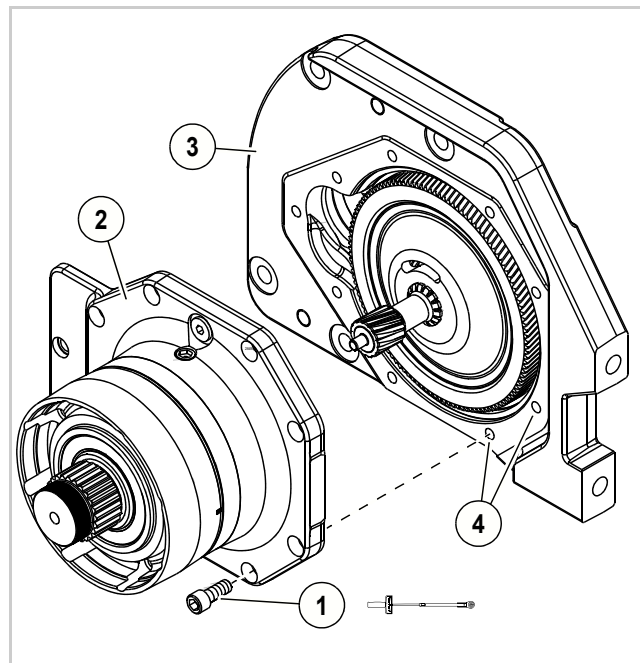

Fig. 27 (26498)
5. Apply primer (061004-002) to the nine screws (1, Figure 27) that assemble the drive unit sub-assembly (2) to the mounting plate (3). Let the primer fully dry for 2 min.